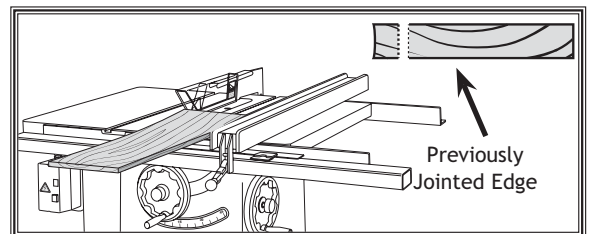

Figure 29. Rip cut on a table saw.
4. **Rip Cut On A Table Saw:** The jointed edge of the workpiece is placed against a table saw fence and the opposite edge cut off (Figure 29).